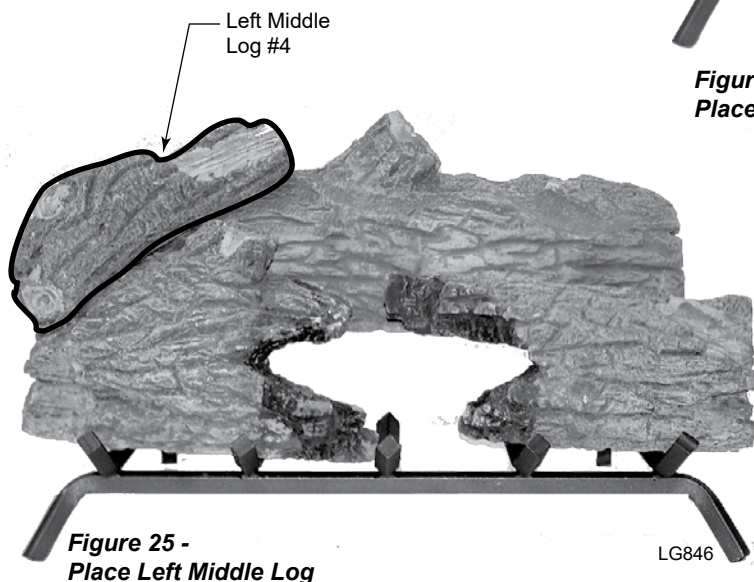

Figure 25 -
5. Place left side middle log #4 as shown. *Figure 25*